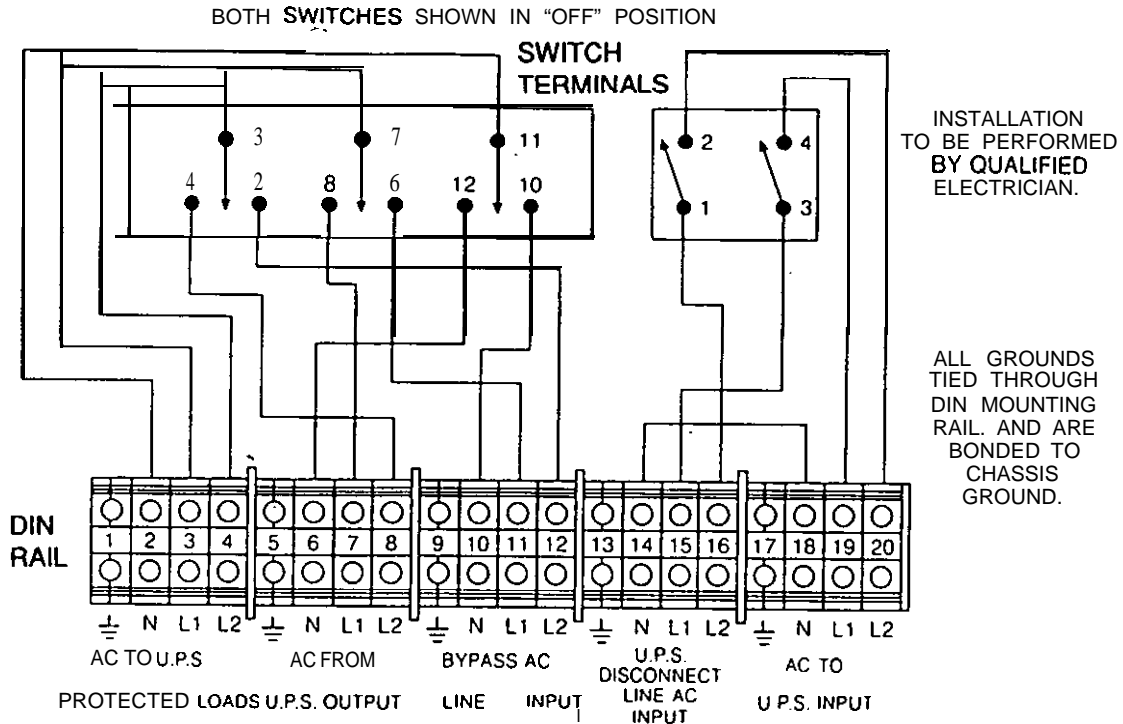

Figure 3
2. Insert the wire and tighten all connections securely to the appropriate terminal on the DIN rail. There is a label on the back of the lower cover of the switch. The label is also shown in Figure 3 on page 5.
- 2. Insert the wire and tighten all connections securely to the appropriate terminal on the DIN rail. **There is** a label on the back of the lower cover of the switch. The label is also shown in Figure 3 on page 5.